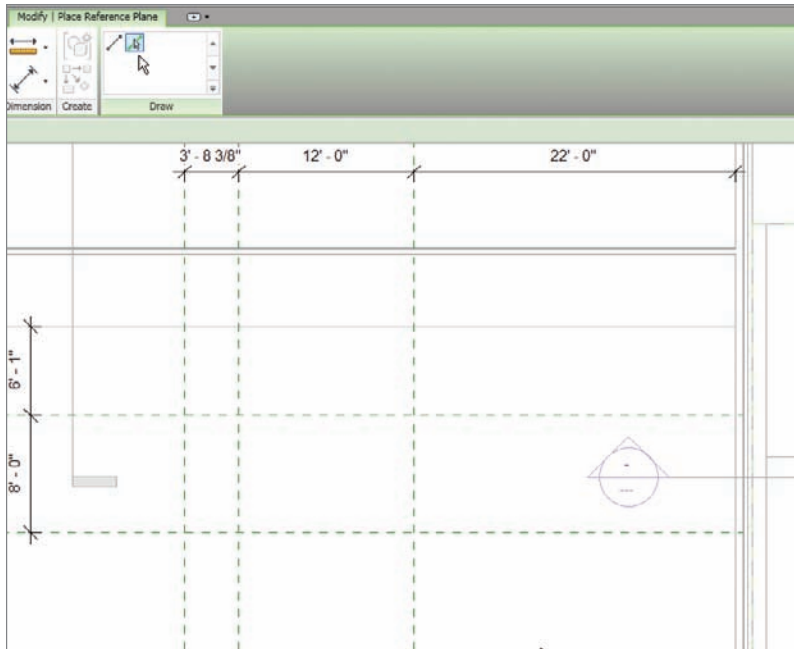

FIGURE 10.65 Using dimensions to lay out the centerlines of the stairs
2. Click the Pick Lines button and then offset a grid, as shown in Figure 10.65.